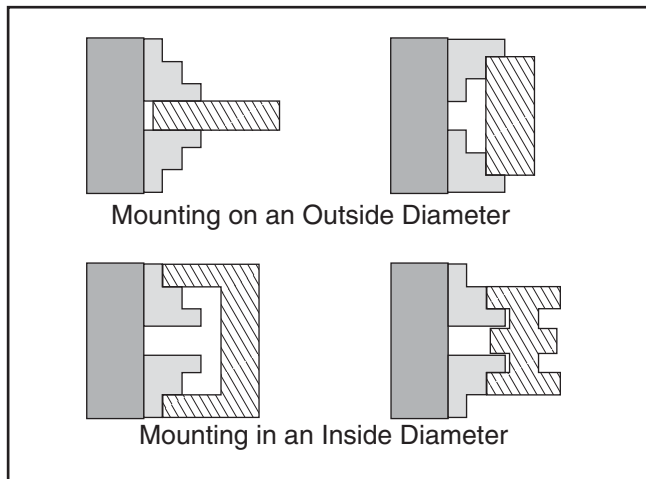

Figure 45. Examples of workpiece mounting options for a 3-jaw chuck.
4. With the help from another person or a supporting device to hold the workpiece in position, tighten the jaws until they make even contact with the workpiece and it is centered. See **Figure 45** for examples of mounting a workpiece on a 3-jaw chuck.